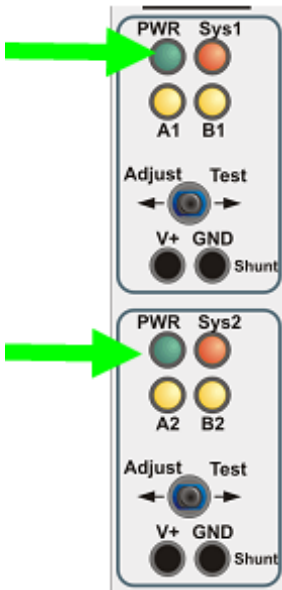

Figure 13 – IMC Board
3.9 At the end of the simulation, when the PB200 testing plate has passed beyond the sensor Check the LED indications SYS2 and B2 have extinguished on the IMC Board leaving the two PWR indications illuminated (Figure 13).